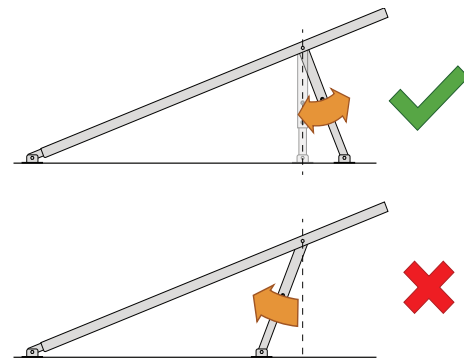

Fig 1
- Adjust the stand side section until the front foot sits over suitable fixing substrate (i.e. purlin) and repeat process outlined in step 1. (Ensure that back leg section maintains a structural angle as shown in fig 1)